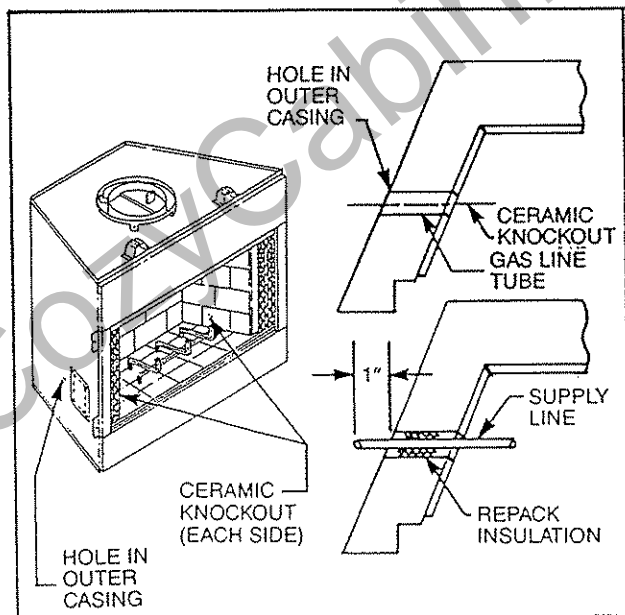

Fig. 25. Install iron pipe gas line through hole provided in either side of fireplace.
Locate the appropriate gas line hole in the outer casing of the fireplace and remove the insulation from the gas line tube. (Refer to Fig. 25.)
**NOTE:** The gas pipe should not come in contact with any wood structures until it has reached a point at least one (1) inch away from the fireplace side. (See Fig. 25 for installation clarification.)